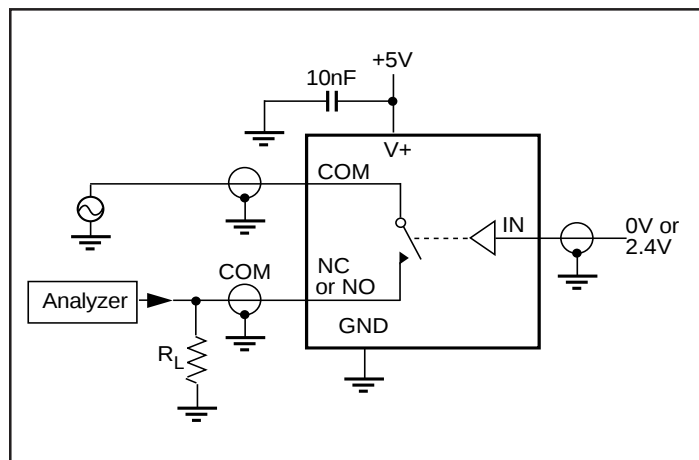

Figure 5. Off Isolation
| Off Isolation (7)                | OIRR                  | R L = 500-ohm, C L = 5pF, f = 1MHz, Figure 5              |          |                    | −72                |                    | dB    |
- Off Isolation =  $20\log_{10} [ V_{COM} / (V_{NC} \text{ or } V_{NO}) ]$ . See Figure 5.